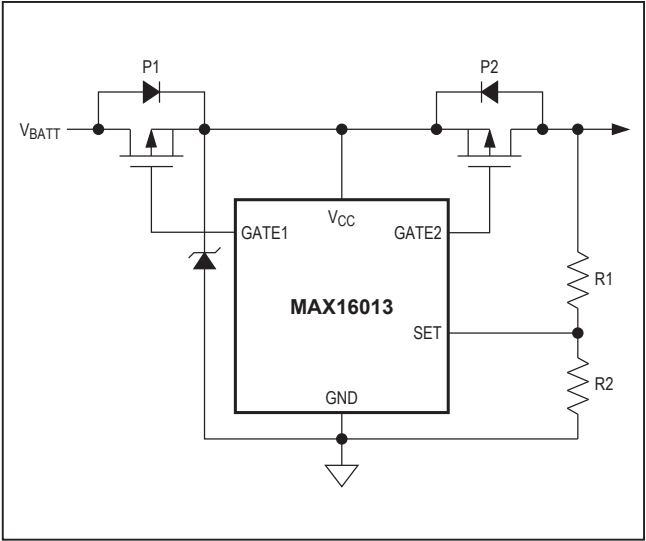

Figure 3. Overvoltage Limiter Protection
The MAX16013/MAX16014 can be configured as an overvoltage switch controller to turn on/off a load (see the *Typical Application Circuit*). When the programmed overvoltage threshold is tripped, the internal fast comparator turns off the external p-channel MOSFET (P2), pulling GATE2 to V_{CC} to disconnect the power source from the load. When the monitored voltage goes below the adjusted overvoltage threshold, the MAX16013 enhances GATE2, reconnecting the load to the power source (toggle ENABLE on the MAX16014 to reconnect the load). The MAX16013 can be configured as an overvoltage-limiter switch by connecting the resistive divider to the load instead of V_{CC} (Figure 3). See the *Overvoltage Limiter* section.
- Add a zener diode or transient voltage suppresser (TVS) rated below V_{CC} absolute maximum rating (Figure 3).
Most battery-powered applications must include reverse-voltage protection. Many times this is implemented with a diode in series with the battery. The disadvantage in using a diode is the forward-voltage drop of the diode, which reduces the operating voltage available to downstream circuits ($V_{LOAD} = V_{BATTERY} - V_{DIODE}$). The MAX16013 and MAX16014 include high-voltage GATE1 drive circuitry, allowing users to replace the high-voltage-drop series diode with a low-voltage-drop MOSFET device (as shown in the *Typical Operating Circuit* and Figure 3). The forward-voltage drop is reduced to $I_{LOAD} \times R_{DS-ON}$ of P1. With a suitably chosen MOSFET, the voltage drop can be reduced to millivolts.